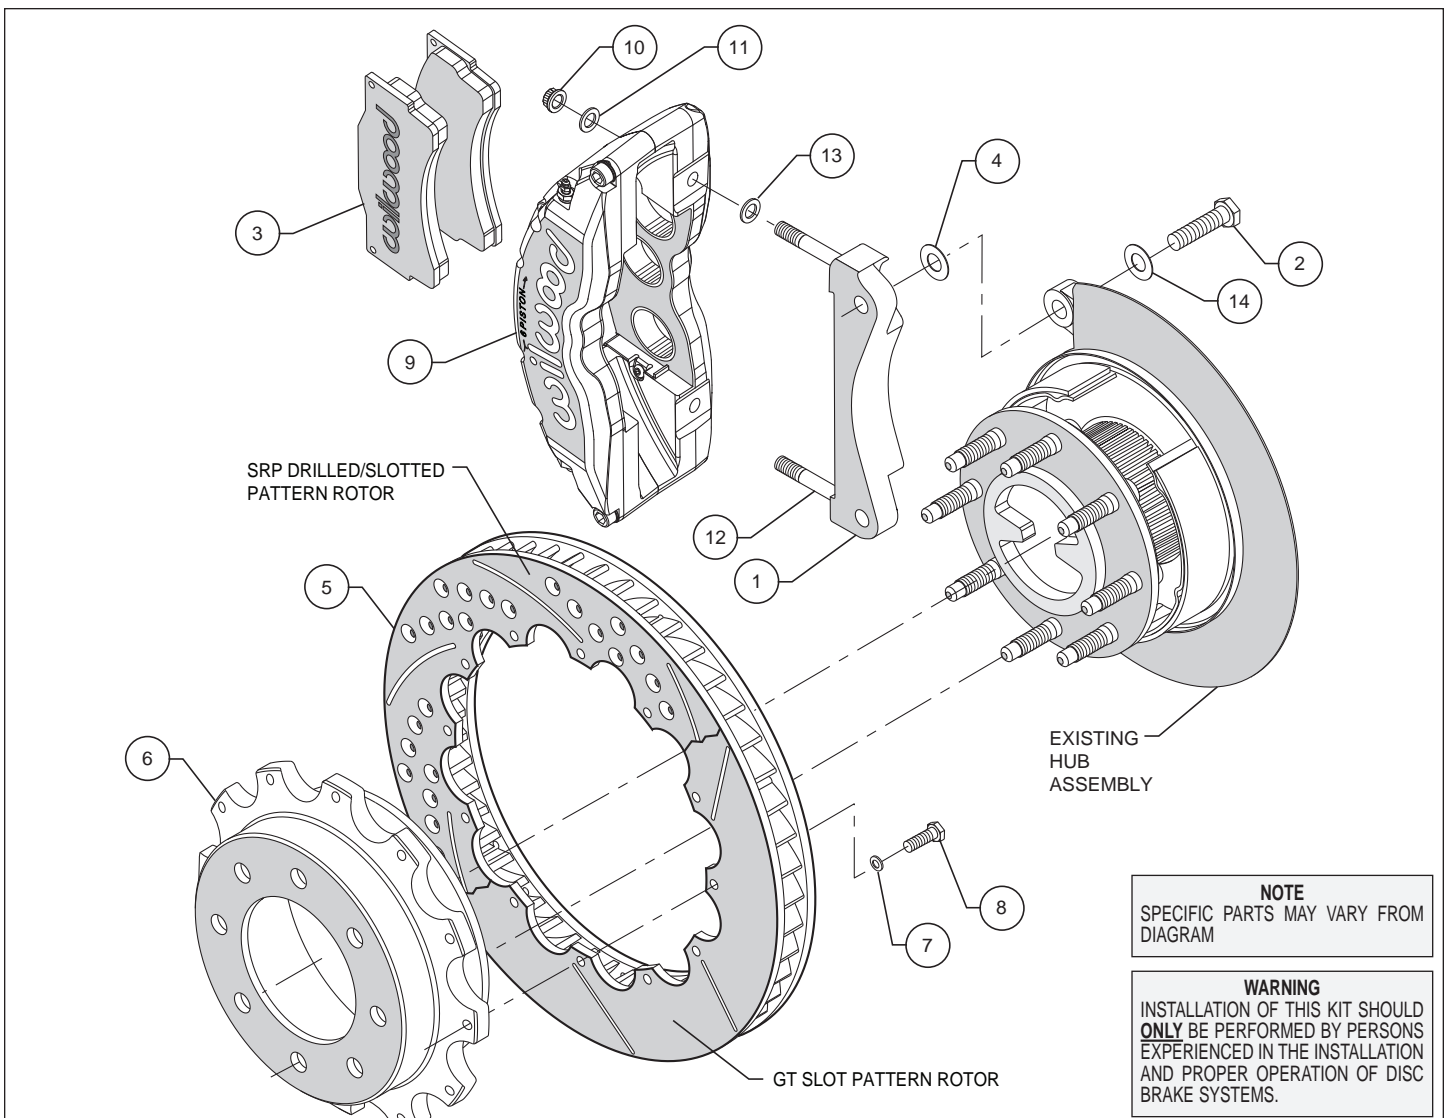
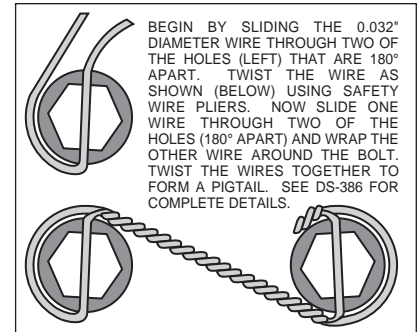

Figure 1. Typical Installation Configuration
Figure 3. Safety Wire Diagram
- The caliper mount bracket assembly (1) should be installed first with clean, dry threads on the mounting bolts (2). Install the bracket by sliding bolt (2) through washer (14) from the rear side of the hub through the OEM caliper mounting bracket ears, then through an additional shim washer (4) and into the bracket (1). The bracket must tighten squarely against the outboard side of the caliper mount bosses on the upright. Inspect for interference from casting irregularities, machining ridges, burrs, etc. Use one shim (4) between the bracket and upright during initial trial fitting. Later, after the caliper, pad, and rotor alignment have been checked, and any necessary shims have been put in place, the mounting bolt threads (2) should be coated with red *Loctite*® 271 and torqued to 95 ft-lbs.
- Attach the rotor (5) to the hat (6) using bolts (8) and washers (7) as shown in Figure 1. Using an alternating sequence torque bolts to 25 ft-lbs. Safety wire the bolts using standard 0.032 inch diameter stainless steel safety wire as shown in Figure 3. Please refer to Wilwood's data sheet DS-386 (available at www.wilwood.com/Pdf/DataSheets/ds386.pdf) for complete safety wire installation instructions.
- Lubricate caliper mounting studs and nuts with lightweight oil. Install one shim (13) over each stud (12) on the radial mount bracket (1). Slide the caliper (9) in place over the studs and rotor and install the washers (11) [up to 4 may be required on each side to keep the lock nut from bottoming out on the stud], and lock nut (10) to hold the caliper in place. The caliper bleed screws should be pointing up. Snug the lock nuts (10) and check that the rotor (5) is centered in the caliper (9). Add or subtract .029" shims (4) as necessary between the caliper mount bracket and the caliper mount bosses on the upright assembly to center the caliper.
- Remove the two caliper center bridge pad retainer bolts, nuts, and tubes from the caliper. Slide the brake pads (3) into place. They should install easily without interference. Check that the outside radius of the brake pad is aligned with the outside diameter radius of the rotor face. Add or subtract shims (13) between the caliper and mount bracket to gain the proper alignment. Reinstall the two center bridge pad retainer tubes, bolts, and lock nuts. The locknut should be snug without play in the bolt or tube. Be cautious not to over tighten.
- Once all clearances have been checked, remove the wheel, caliper and rotor from the axle flange. Secure the caliper mounting bracket (1) to the axle flange body with bolts (2) while coating the threads with red *Loctite*® 271. Torque the bolts to 75 ft-lbs. Reinstall the rotor and again use several lug nuts to hold it in place. Reinstall the caliper, torque the caliper nuts (10) to 47 ft-lbs.